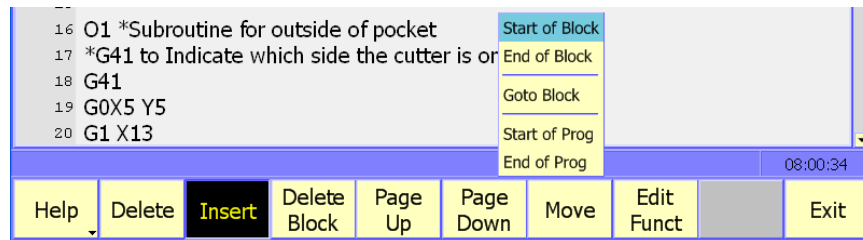

Figure 6-3, Move (F7) Pop-up Menu
Press **Move (F7)** to display the Move pop-up menu. Refer to **Figure 6-3** and **Table 6-2**.
1. In Edit Mode, place the cursor on the desired block of the program. Press **Move (F7)** to display the pop-up menu. Refer to Figure 6-3, Move \(F7\) Pop-up Menu.
1. In Edit Mode, press **Move (F7)** to display the pop-up menu. Refer to Figure 6-3, Move \(F7\) Pop-up Menu.